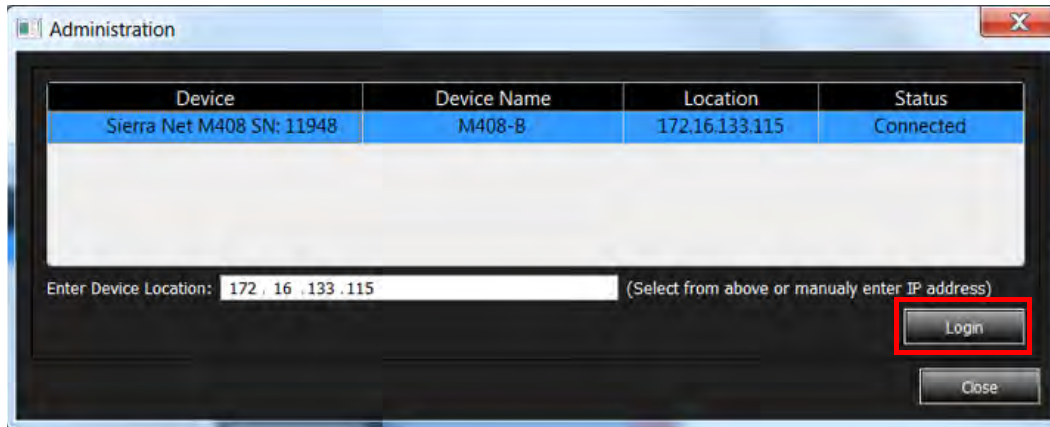

Figure 2.56: Administration Dialog Window
1. Click **Admin Access...** The Administration dialog window appears (Figure 2.56).
- **Log out**—Takes you back to the Admin Access dialog (Figure 2.56)